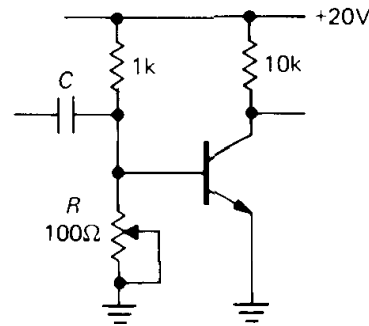

Figure 2.82
(7) Disregarding the lessons of this chapter, a disgruntled student builds the amplifier shown in Figure 2.82. He adjusts R until the quiescent point is $0.5V_{CC}$. (a) What is Z_{in} (at high frequencies where $Z_C \approx 0$)? (b) What is the small-signal voltage gain? (c) What rise in ambient temperature (roughly) will cause the transistor to saturate?